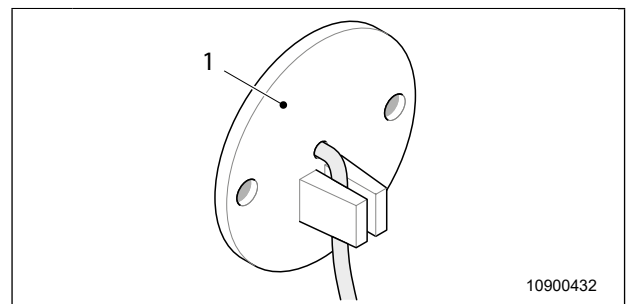

Fig. 62 String-operated shut-off
The string-operated shut-off (Fig. 62, item 1) is located in the bathroom.